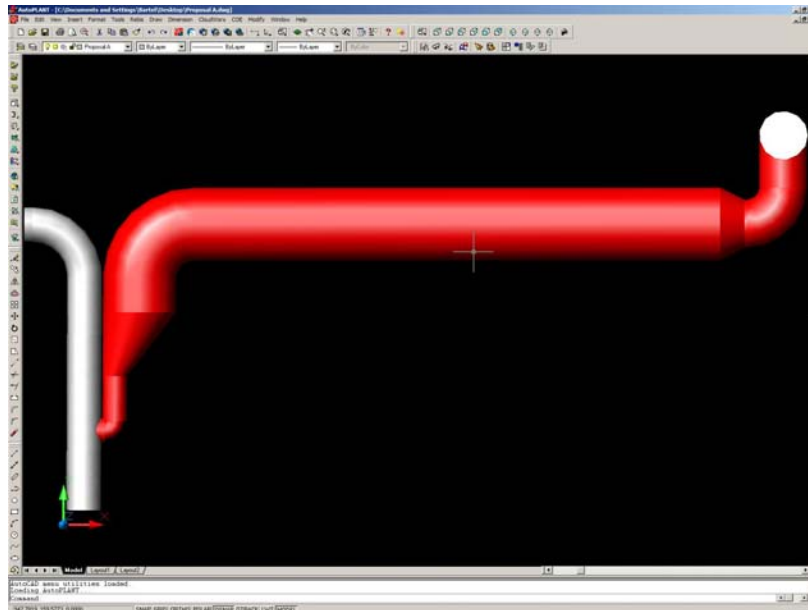

Figure 10.
1. Copy, then open the file **"Proposal A.dwg"** from the CD. See *figure 10*.